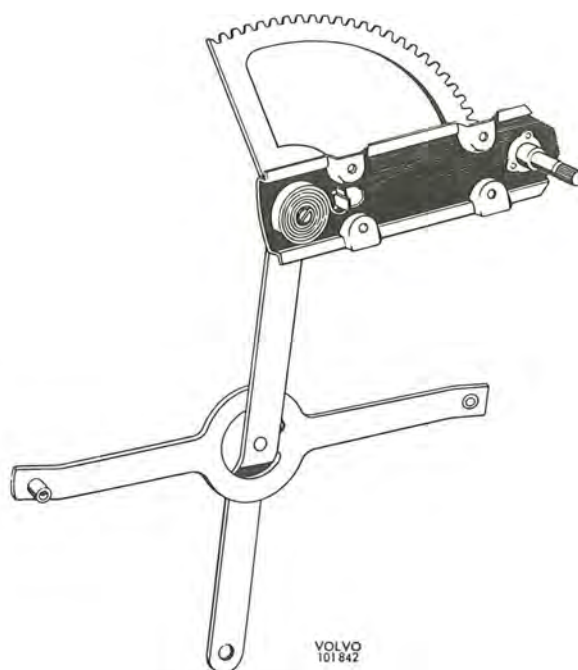

Fig. 8-13. Winding mechanism
6. Remove the attaching screws for the window winder, see Fig. 8-6, and remove it from the door, see Fig. 8-13.